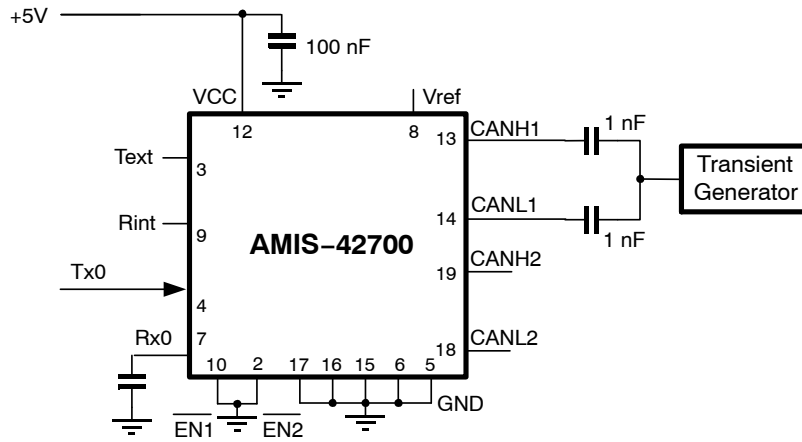

Figure 5. Test Circuit for Automotive Transients
4. Applied transient waveforms in accordance with "ISO 7637 part 3", test pulses 1, 2, 3a, and 3b (see Figure 5).